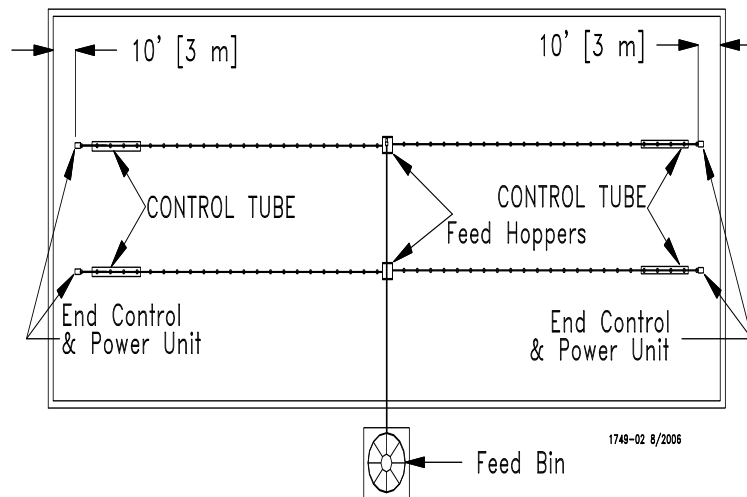

Figure 2. Component location diagram for systems over 400 feet [122 m]. (Top View).
- B. Systems with line lengths over 400' [122 m] should be split in the center, as shown in Figure 2.. This will reduce auger running time.